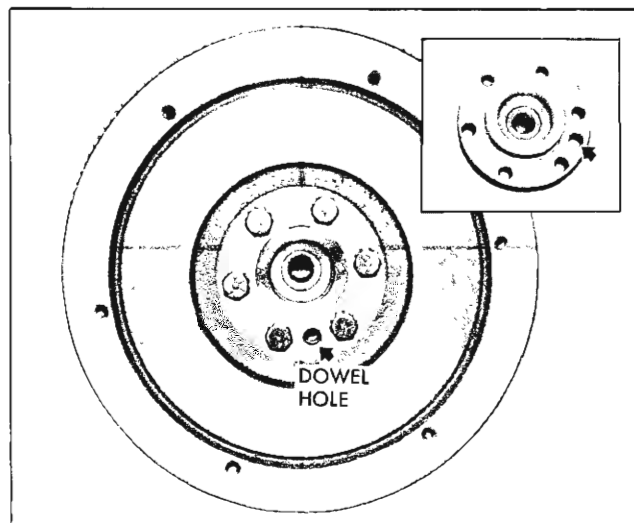
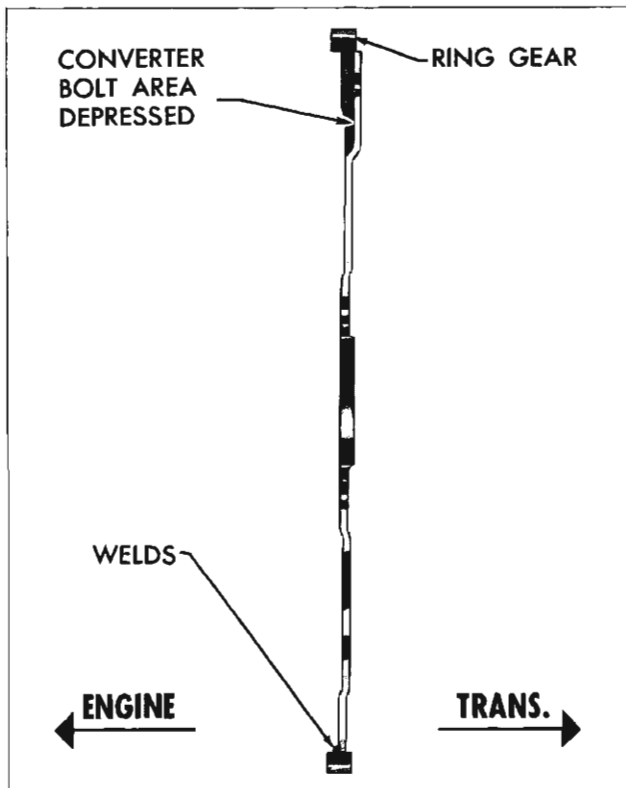

Fig. 74—Flywheel Installation (Syn.)
Fig. 75—Flywheel Installation (P.G.)
27. Install flywheel—Line up dowel hole in flywheel with dowel hole in crankshaft flange and bolt flywheel in place (fig. 74). Torque to 45-50 ft. lbs. (Powerglide flywheel must be installed as shown in (fig. 75)).